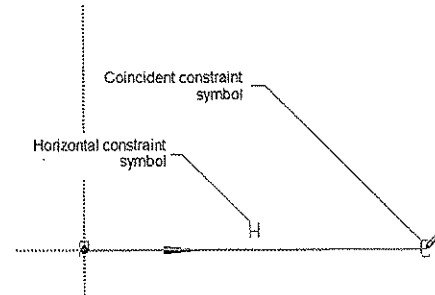

Figure 4-4 Specifying the end point of the line
8. Next, you need to specify the end point of the line. Move the cursor toward right in such a way that the symbol of Horizontal constraint (H) is displayed over the line and symbol of Coincident constraint (C) is displayed at the end point of the line, as shown in Figure 4-4.